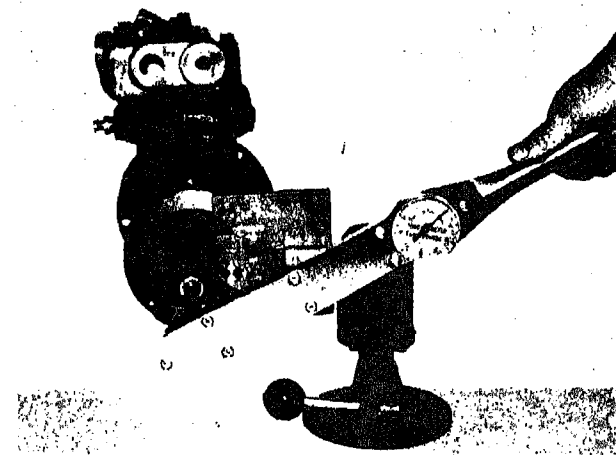

Fig. 12-2-31. Tighten counterweight cap screw
16. Tighten counterweight cap screw to 40 ft. lbs. Fig. 12-2-31.